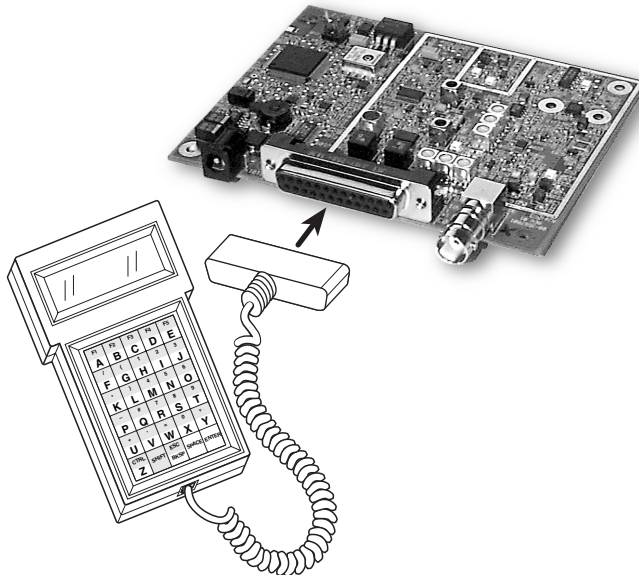

Figure 8. Hand-Held Terminal Connected to the Transceiver
1. Connect the HHT's coiled cord to the DATA INTERFACE (DB-25) connector on the radio as shown in Figure 8. Pin 23 of the HHT cable must be grounded to enable the diagnostic channel. (See Table 4.) This automatically places the radio into the control and programming mode.